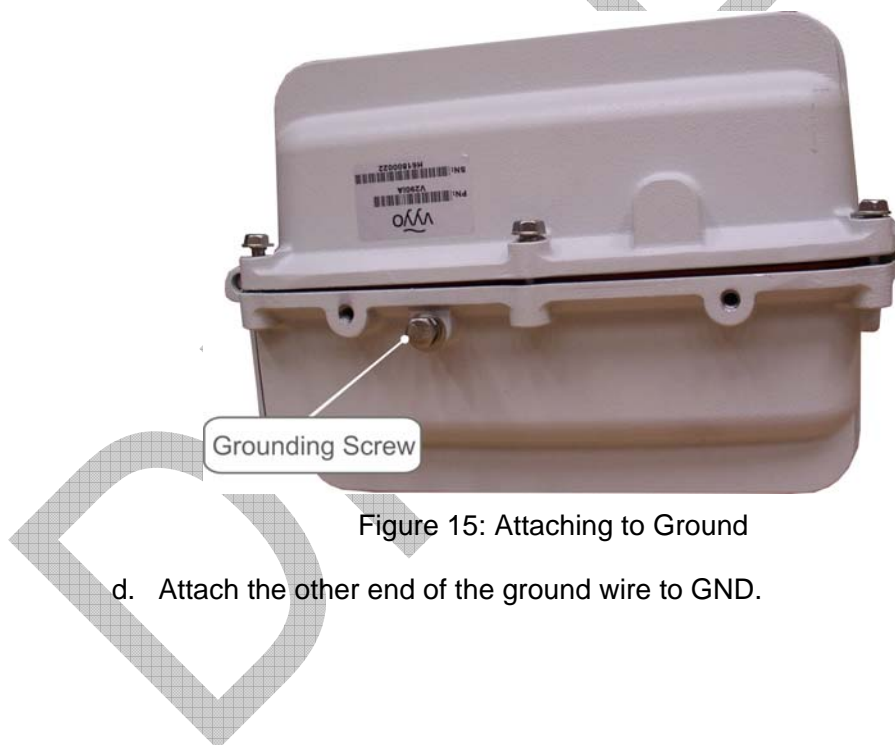

Figure 15: Attaching to Ground
1. Attach a ground wire with a ring terminal to the grounding screw, shown in Figure 15. Perform the following: